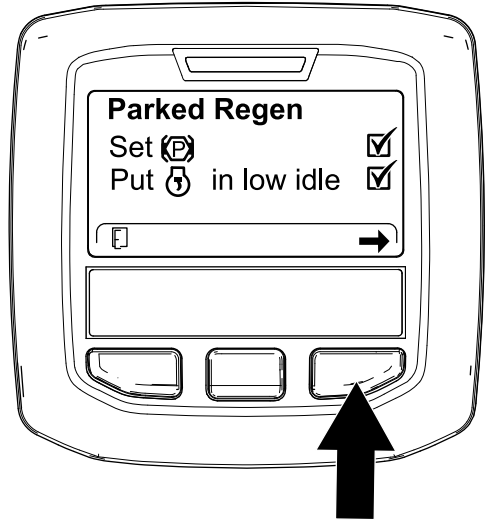

Figure 58
- At the DPF checklist screen, verify that the parking brake is engaged and that the engine speed is set to low idle (Figure 58).